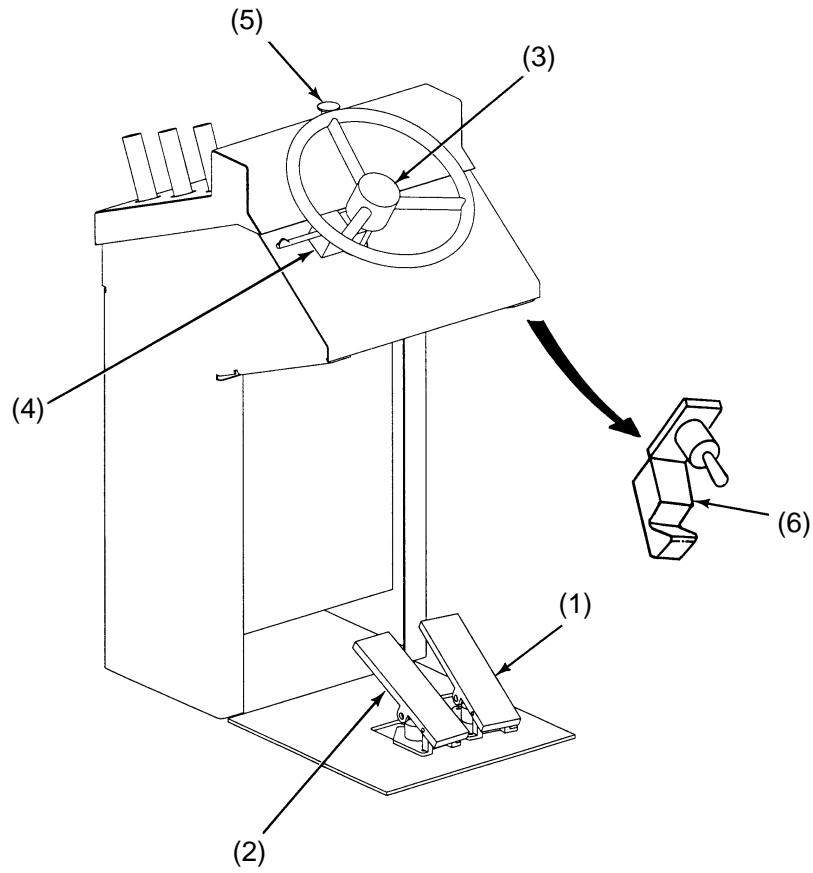

Figure 10
- (10) SHIFT TO NEUTRAL INDICATOR (amber) – illuminates when PROPEL SWITCH is not set to N.
- (11) MASTER START SWITCH – starts engine. ON: engine running, OFF: engine shutdown.
- (12) START ENABLE SWITCH – NORMAL – override to start, COLD to preheat engine.
- (13) IGNITION LAMP (amber) – illuminates when master start switch is ON.
- (14) PANEL LIGHTS – illuminates panel when headlights are ON.
- (15) FLUID LEVEL INDICATOR – indicates oil level in hydraulic tank.
- (16) TEMPERATURE INDICATOR – indicates temperature of hydraulic oil.
- E. Driver's Console (Figure 10)
- (1) ACCELERATOR – foot pedal, regulates drive speed of loader.
- (2) BRAKE – foot pedal, applies service brakes.
- (3) HORN SWITCH – push button at center of steering wheel, sounds horn when pressed.
- (4) TURN SIGNAL SWITCH – indicates direction of turn, flasher included.
- (5) EMERGENCY STOP SWITCH – push button shuts down loader and applies parking brake.
- (6) EMERGENCY PUMP SWITCH – located under right corner of driver's console. Provides emergency hydraulic power for all loader functions except drive and platform lift when master start switch is ON.